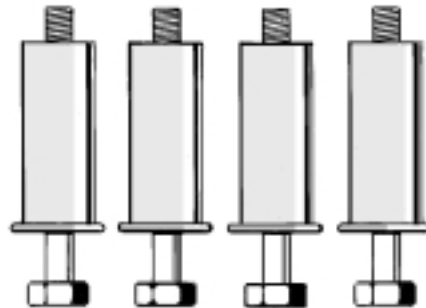

Fig. 1
**Before using the appliance the transit bolts MUST be removed (Fig. 1).**